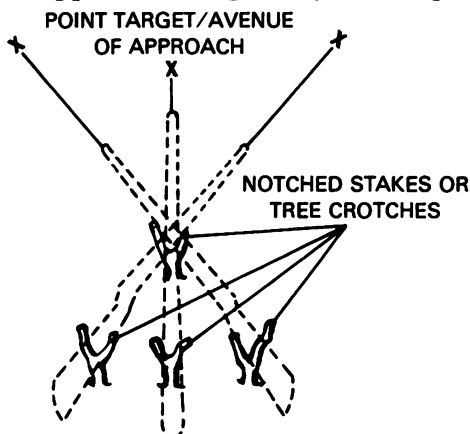
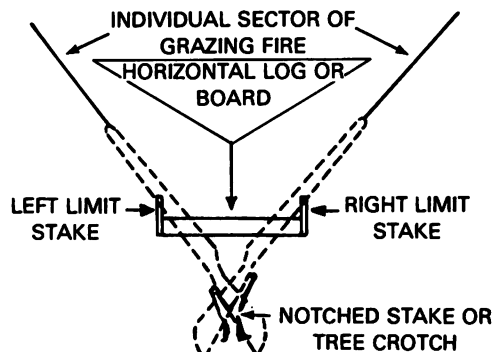

Figure 1.
Figure 2.
2. Prepare field expedient aiming, firing, and limiting stakes (notched stick or tree crotch, figure 1; rocks, board or log, figure 2) which are able to support the weight of your weapon.
6. By using additional stakes or a horizontal board or log you can lay the weapon for grazing fire along more than one line or to cover an entire sector depending on the terrain (figure 1 and 2). Grazing fire is achieved when the cone of fire does not rise 1 meter above the ground.